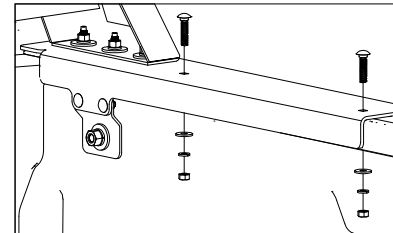

Figure C3: View looking at passenger side bed rail.
4. **Install the carriage bolts.** Insert a 5/16" x 1-1/2" carriage bolt in each of the drilled holes and secure using a flat washer, lock washer, and finish nut, see Figure C3. Tighten each nut to 18 ft-lbs.